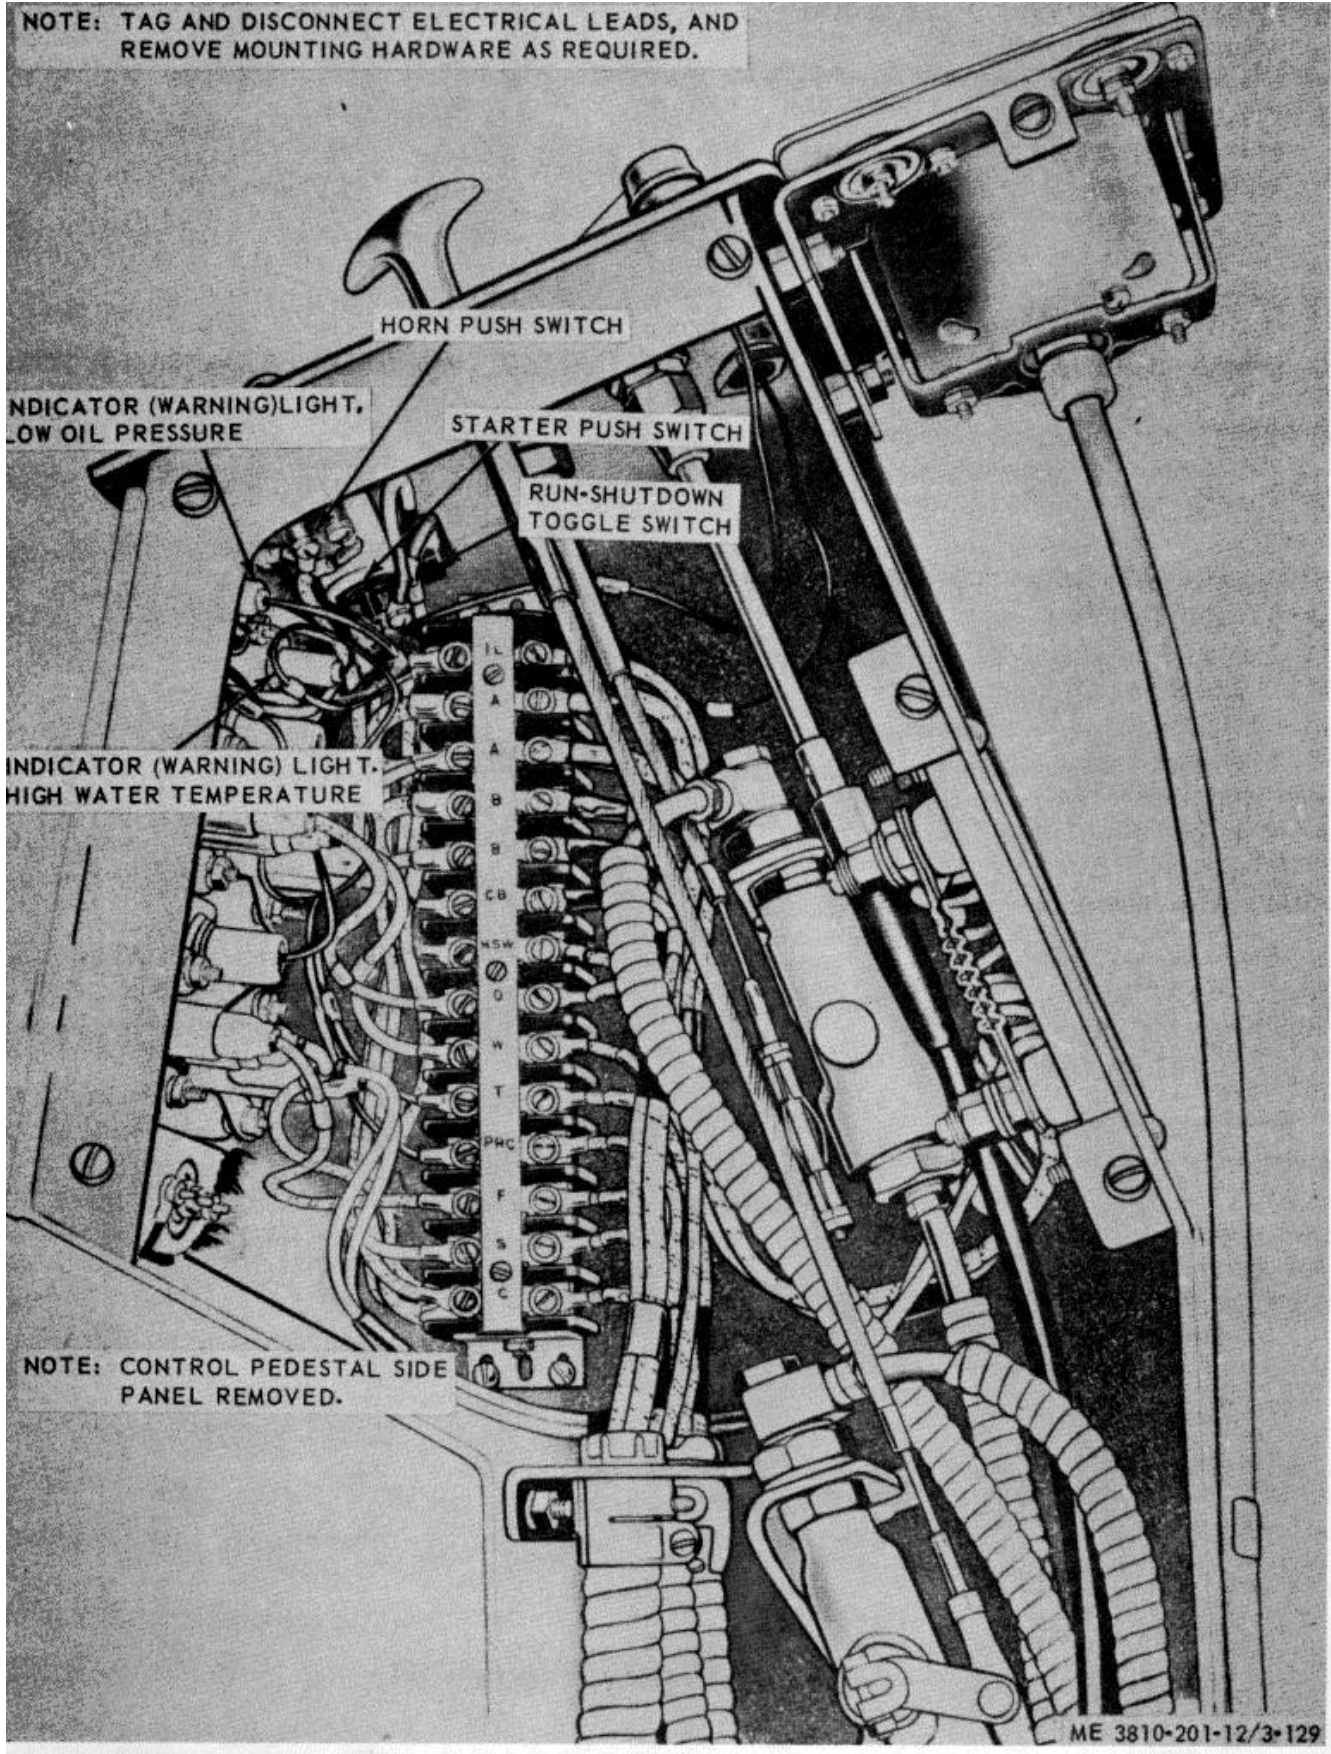

Figure 3-129. Indicator light and switch, removal and installation.
(1) Refer to figure 3-129 and remove the low oil pressure indicator (warning) light.
(2) Install in reverse order.
a. Removal and Installation. Refer to figure 3-129 and remove indicator (warning) light water high temperature. Install in reverse order.
(1) Refer to figure 3-129 and remove run-shut-down-toggle switch.
(1) Refer to figure 3-129 and remove starter push switch.